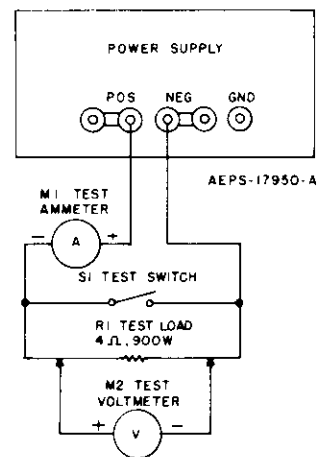

Figure 3. Equipment Setup For Meter Calibration
Step 2. Set up equipment as shown in Figure 3. Test switch S1 is kept open during the calibration procedure. For the programmable dc power supply, depress the POT ADJ pushbutton. Switch the power supply to the DC ON mode of operation.
Step 2. Set up equipment as shown in Figure 3. For the programmable dc power supply, depress the POT ADJ pushbutton. Switch the power supply to the DC ON mode of operation.